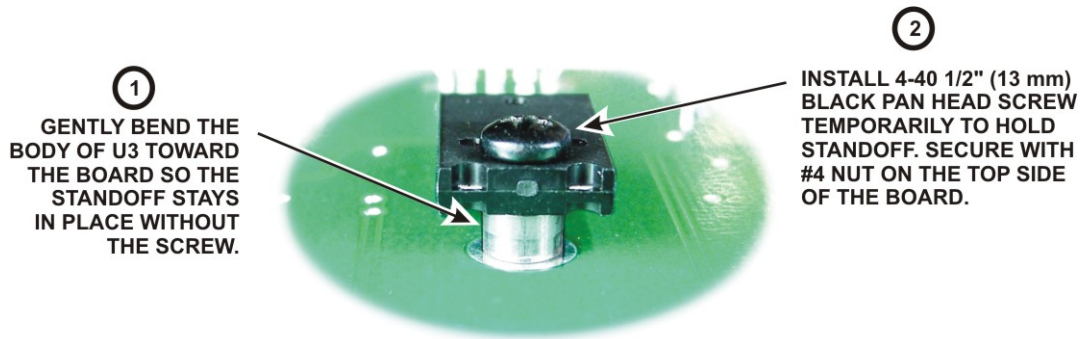

Figure 2. Installing U3 Spacer.
□ Place the 1/8" (2.9 mm) spacer under regulator U3 and temporarily secure it as shown in Figure 2. It is important that the spacer stay in place so it won't fall out later when you remove the screw to mount the bottom cover.
Remove the screw holding the spacer between U3 and the pc board and mount the bottom cover as shown in Figure 7. Be careful not to dislodge the spacer. If it falls out, you must remove the cover and replace it as shown in Figure 2.